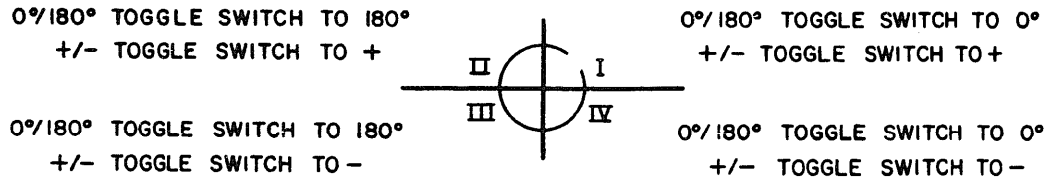

Figure E-2. Quadrant Phase Shifting
- a. **REF PHASE:** Dial 0° to 90° in 2° increments; operates in conjunction with the $0^\circ/180^\circ$ switch and the +/- switch (quadrant selectors) to shift the reference phase 360° , in four quadrants. Figure E-2 illustrates control settings and respective reference phase shifting.